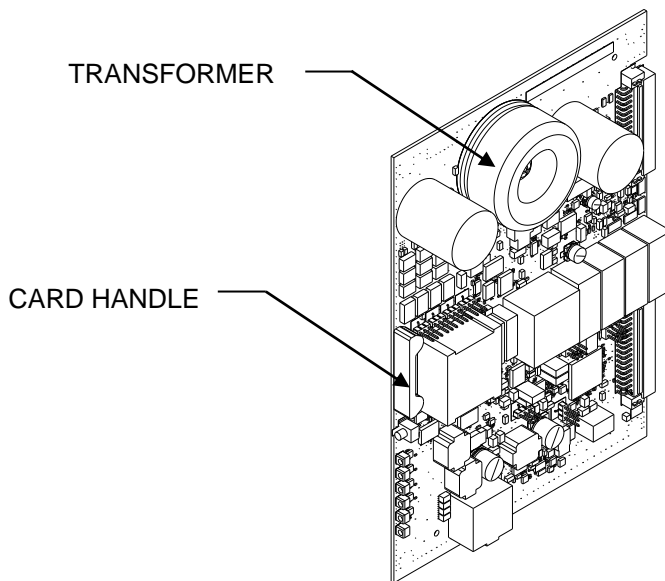
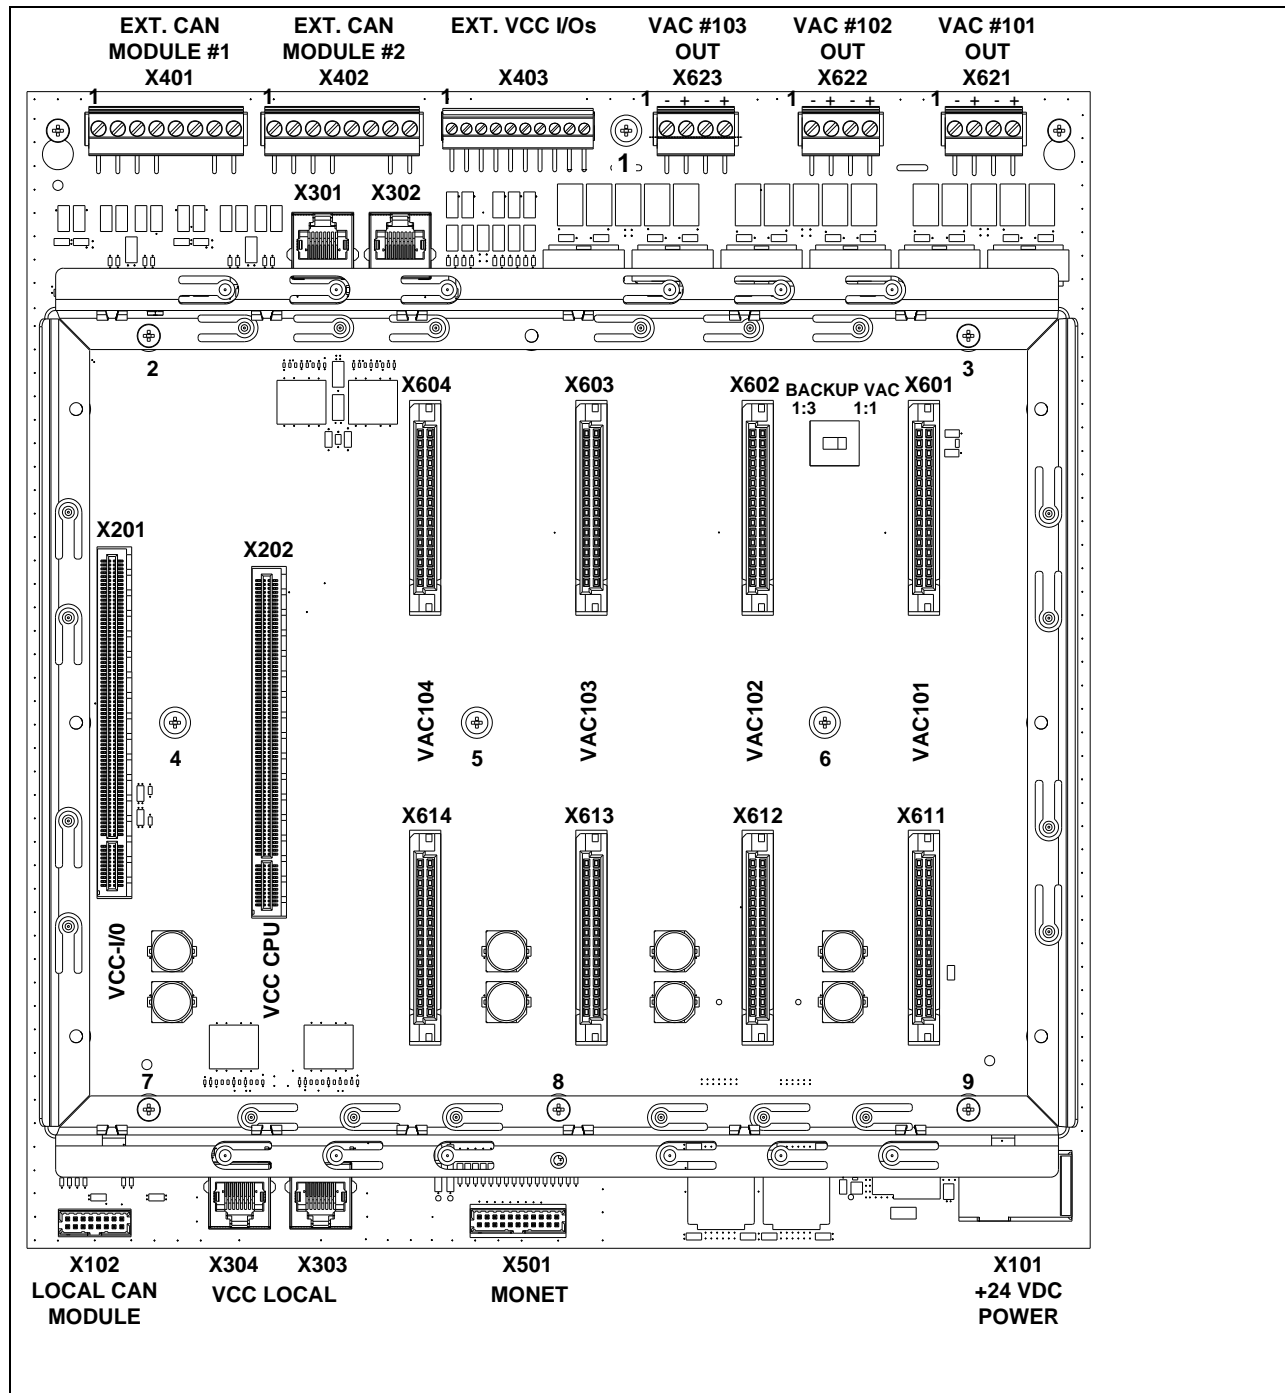

Figure 5
Figure 6
Using the site-specific shop drawings as a guide, install from one to four amplifier cards into the four available amplifier slots (VAC101, VAC102, VAC103 and VAC104) illustrated in Figure 6.
3. Please refer to Figure 5. Holding the VCI2001-U1 so the transformer is on the top of the card, **gently** insert the card into the backplane amplifier slots VAC101, VAC102, VAC103, or VAC104 (see Figure 6). Use the raised card guides on the inside of the top and bottom of the Card Cage to guide it into place.